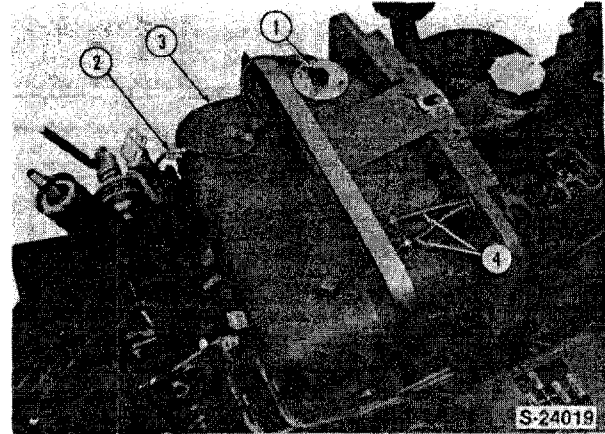

Figure 14
12. Disconnect the fuel gauge sender wires (2), Figure 14.
13. Disconnect the fuel return lines from the fuel tank (4), Figure 14.